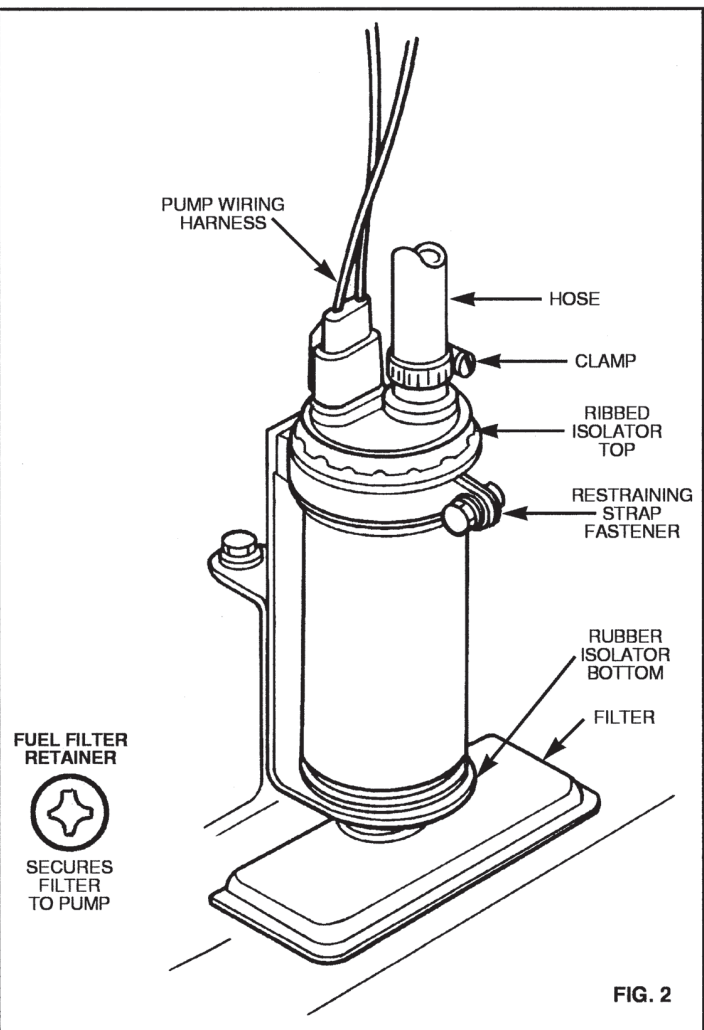

FIG. 2
E) Loosen the pump restraining strap fasteners and remove the fuel pump. Remove the two rubber isolators from the fuel pump. Save the restraining strap fasteners and two rubber pump isolators. Discard the pump and filter. SEE FIG. 2